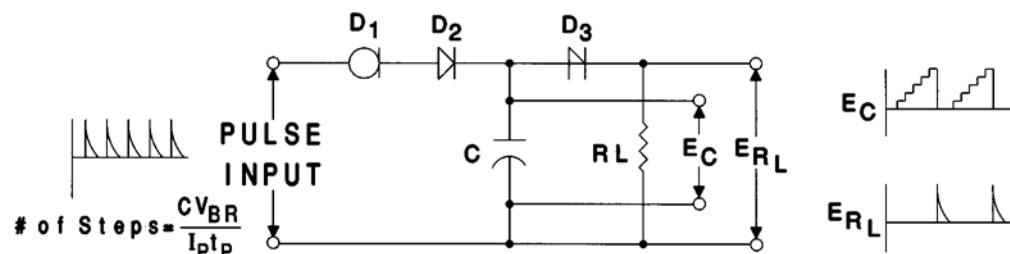
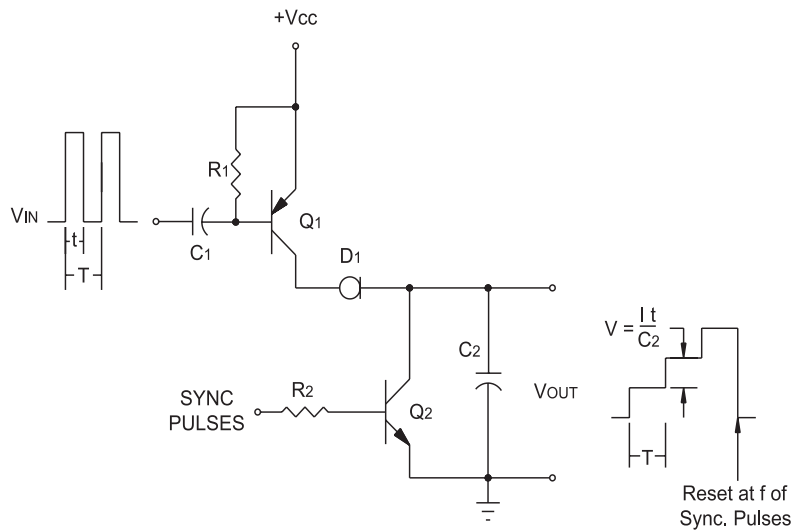

Figure 16. Stairstep Generator
Figure 17. Stairstep Generator
**Stairstep Generator**—A CLD is used to optimize the performance of a four-layer diode stairstep generator (Figure 16). The CLD allows the use of input pulses only a few volts above the breakdown voltage of the four-layer diode. Another stairstep generator (Figure 17, page 144) uses bipolar transistors and a CLD. This circuit requires that sync pulses be applied to  $Q_2$  to reset the train of steps.